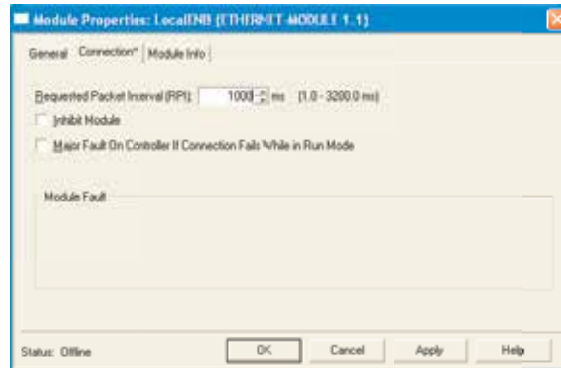

Figure 4.3.21q Module properties page
- In the Module properties page (Figure 4.3.21q), set RPI to 1000 and click 'OK'.